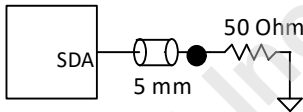
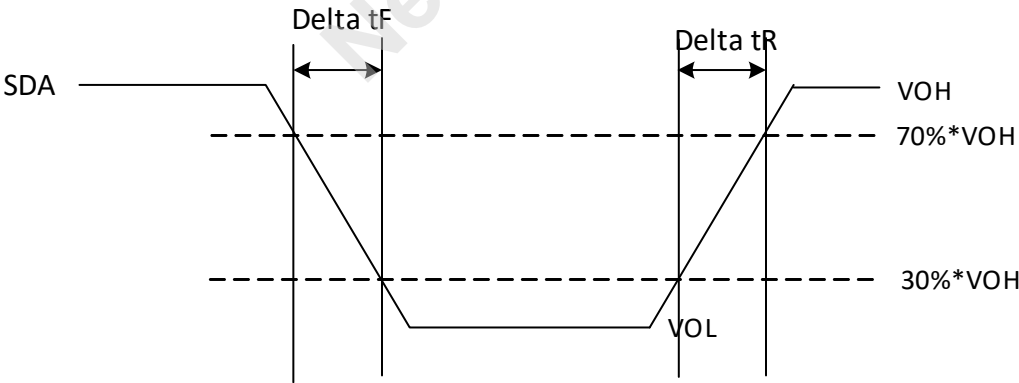

Figure 4 — Output Slew Rate and Output Timing Reference Load
Figure 5 — Output Slew Rate Measurement Points
3. Output slew rate is guaranteed by design and/or characterization. The output slew rate reference load is shown in Figure 4 and Figure 5 shows the timing measurement points. For slew rate measurement, the V_{OH} level shown in Figure 5 is a function of R_{on} value; V_{OH} = {1.0/(R_{on} + 50)} * 50.
8. This timing parameter is guaranteed into output timing reference load as shown in Figure 4.